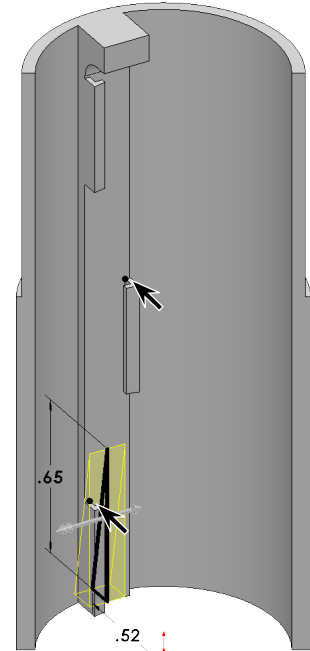

Fig. 66
Step 14. Use the down Arrow key on keyboard to rotate view slightly to view cuts in Hook Housing, **Fig. 66**.
click **inside Vertex of Cut 1 Engine Hook Housing, Fig. 66**
click **inside Vertex of Cut 2 Engine Hook Housing, Fig. 66**